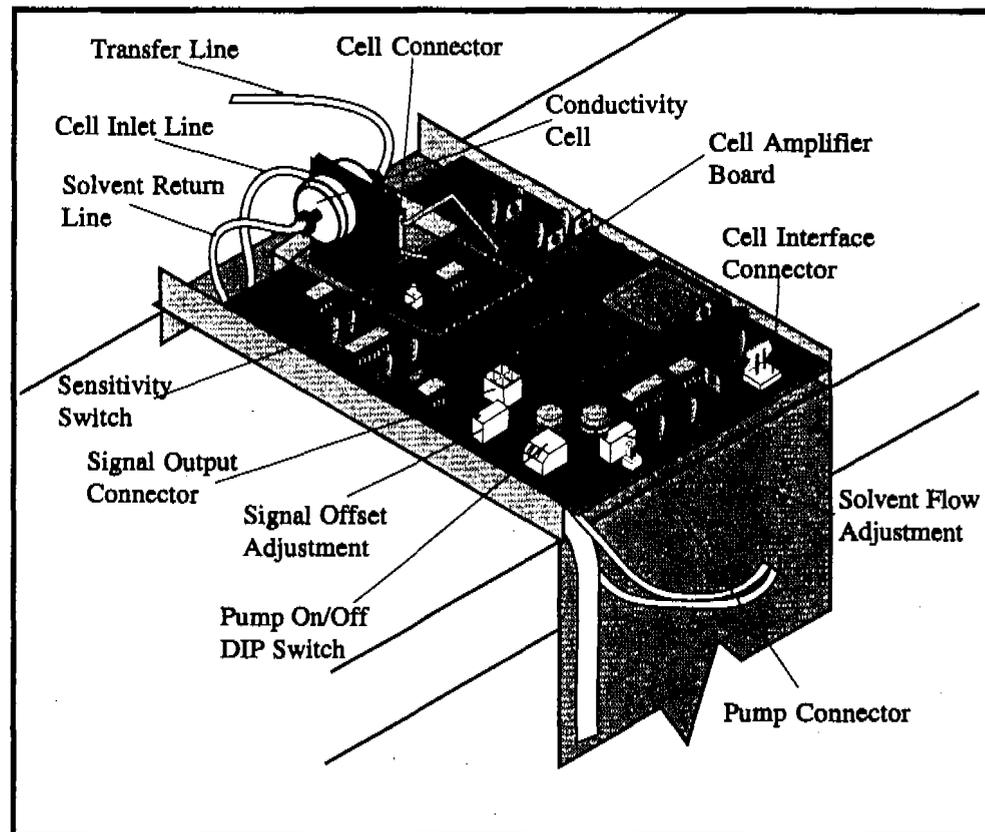

Figure 2.3. Cell/Solvent Assembly - Top View
- Plug the detector signal cable (appropriate cable is ordered separately from the detector) into the 4-pin signal output connector on the cell amplifier board. Connect the other end of the cable to the particular data handling device to be used with the Model 5320 ELCD. When using an HP Analog Input Board (AIB), this cable will plug into the AIB on the top right side of the GC. Route this cable along the top, to the back of the GC (see Figure 2.3).
- Plug the cell interface cable (Part #247007) to the cell interface connector on the cell amplifier board (see Figure 2.3).